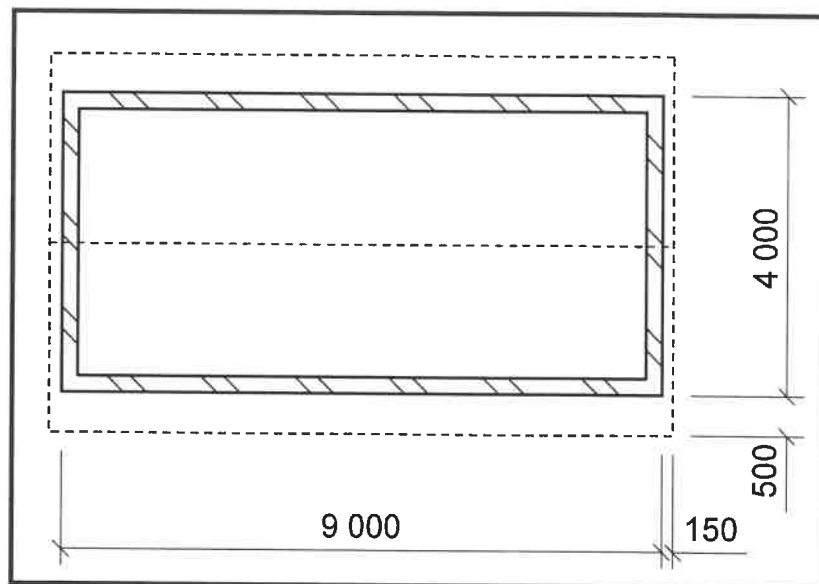

FIGURE 6.7
6.7 FIGURE 6.7 below shows the floor plan of a building with a gable roof.